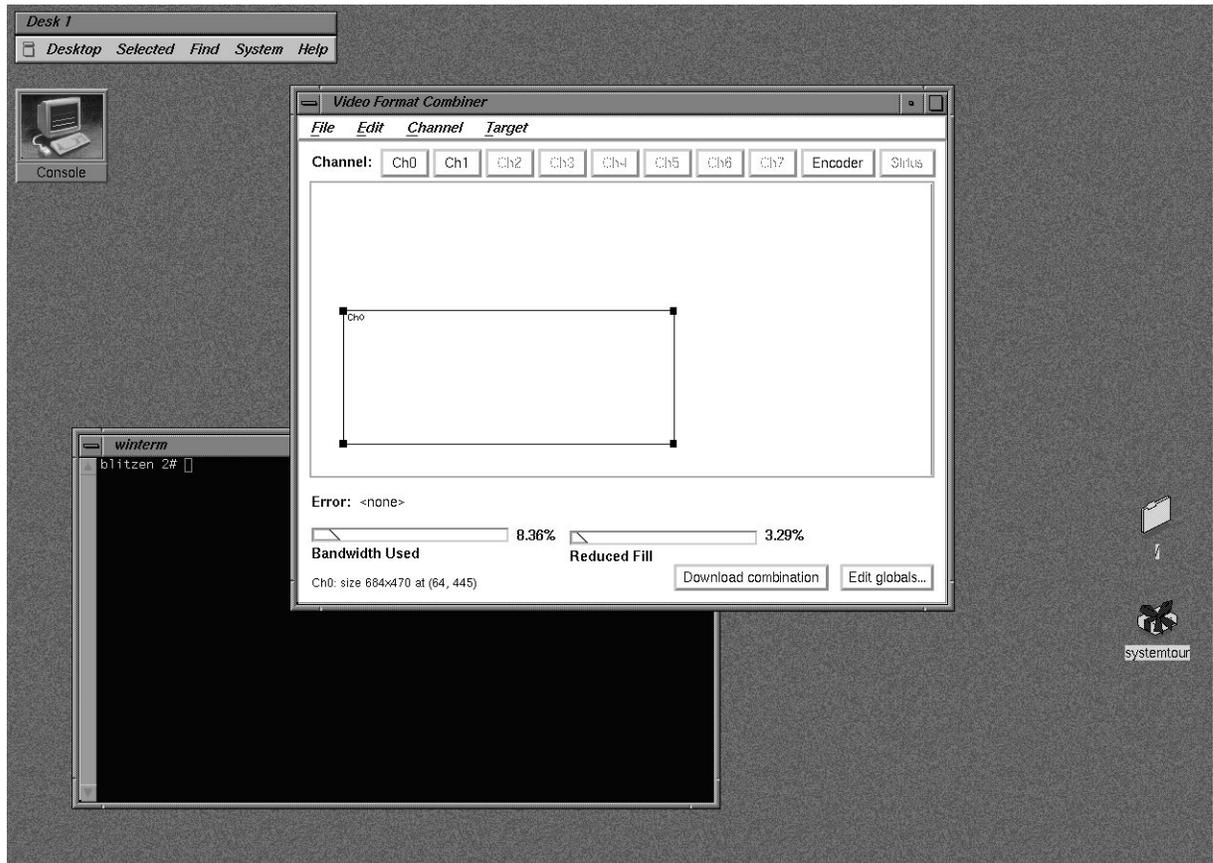

Figure A-10 Static Resize Selection
6. Move the cross (cursor) into the IRIX shell window and click the mouse button. The rectangle in the Combiner’s main window representing Ch0 now represents the area of the framebuffer covered by the 80 x 24 IRIX shell that you clicked in. See Figure A-10 for a screen example.